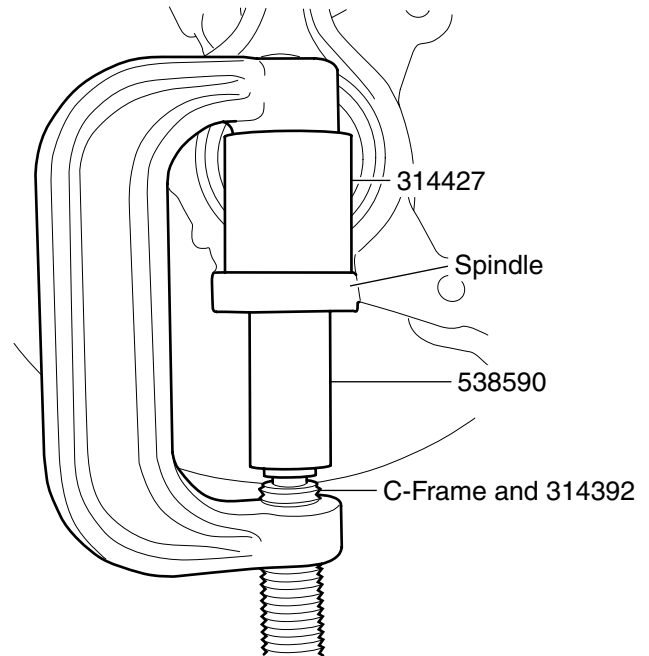

Figure 1. Ball Joint Removal
3. Position 314427 (or 554398), 314392 and the C-Frame as shown in Figure 1.